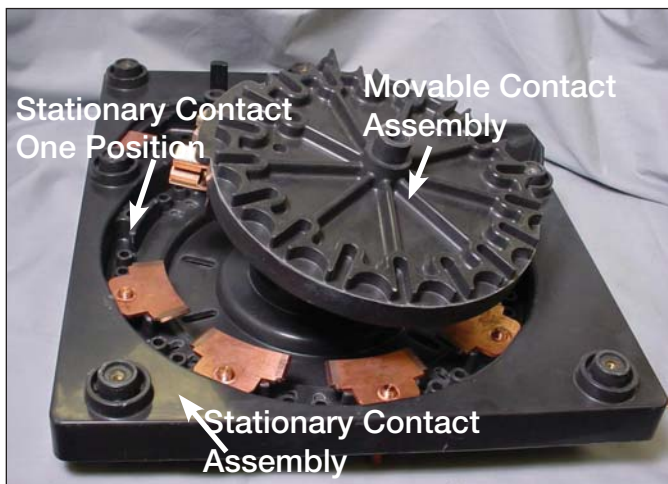

Figure 25.
- Align the movable contact and Geneva gear assembly so that the movable contacts align up where the number one stationary contact has been removed. See Figure 25.